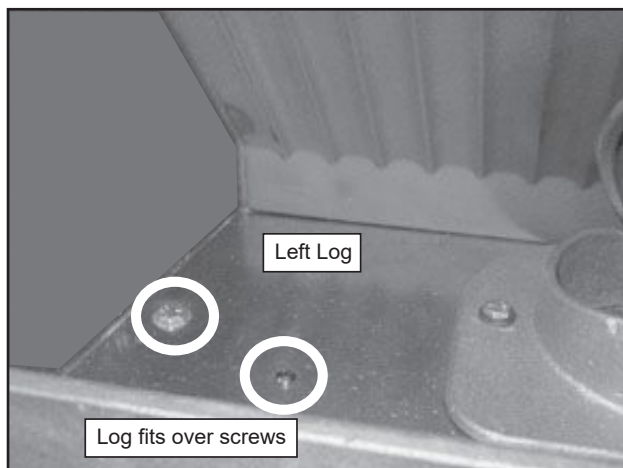

Figure 22.1
1. Place the left log as shown. There are 2 indentations in the bottom of the log to fit over the screw heads in the firebox (**Figures 22.1 and 22.2**).